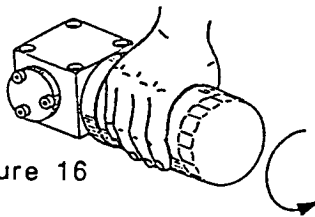

Figure 16
- Unscrew clogged filter by turning the filter counterclockwise and discard. (Figure 16)